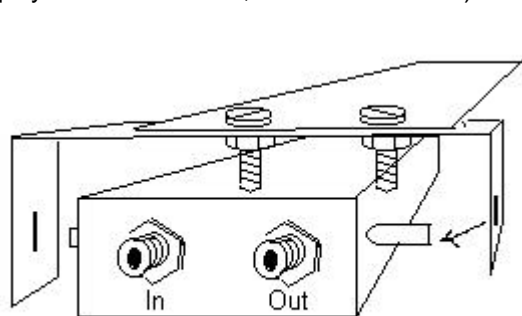

Figure 3
In the second version I built, the pots were mounted in a rather flat box (made from ABS, with a lid), the shafts sticking out at the sides of the box (see figure 3). The aluminum strip (4) with the oblong holes was made to fit over the box, the top (1), made out of aluminum, fixed to the strip by some nuts and bolts. You could use an Eddystone type of box as well, I think, but I have not bothered to do so yet (it is more fun to play with them VCF's, VCA's and VCO's).